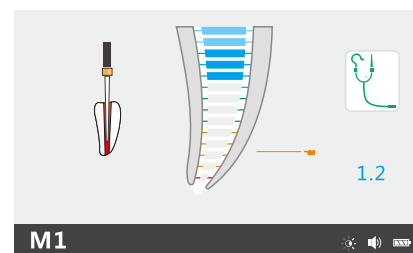
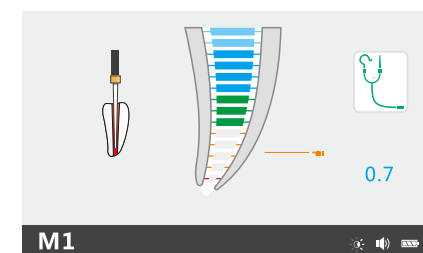

Fig.19 Apex Area-Blue
Fig.20 Apex Area-Green
- In the root apex area the indication dot indicates the exact position and changes accordingly from blue to green and then to yellow (Fig. 19, Fig. 20).